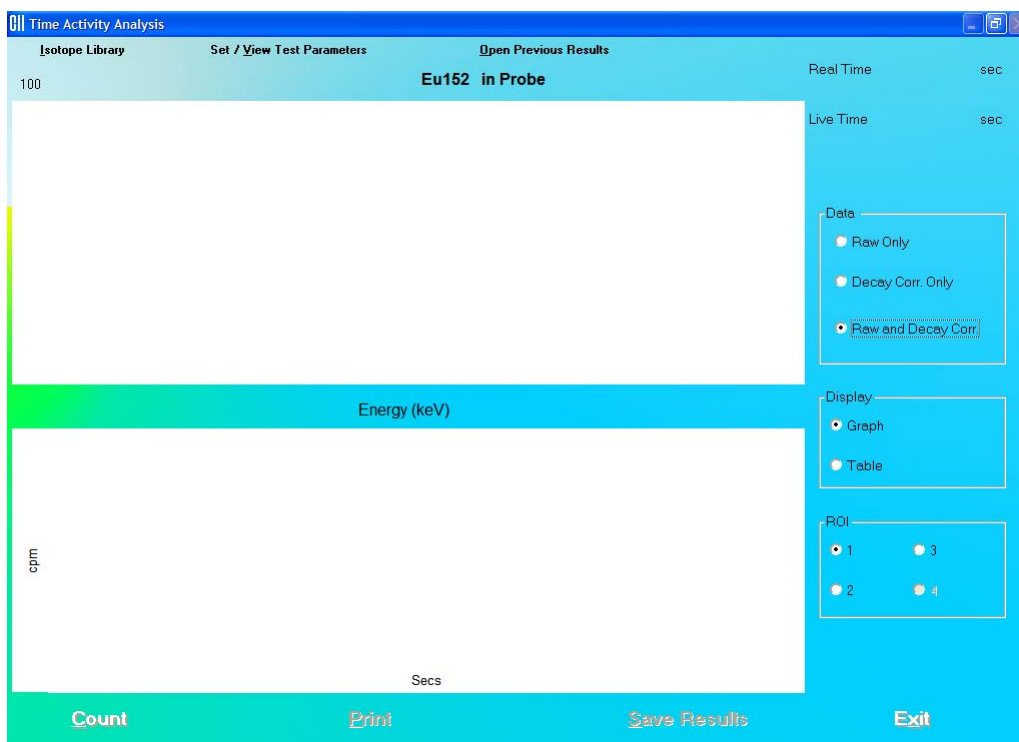
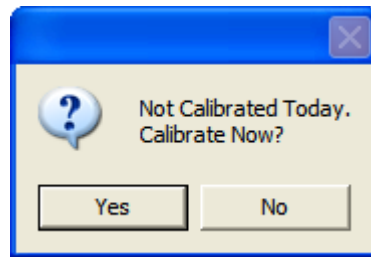
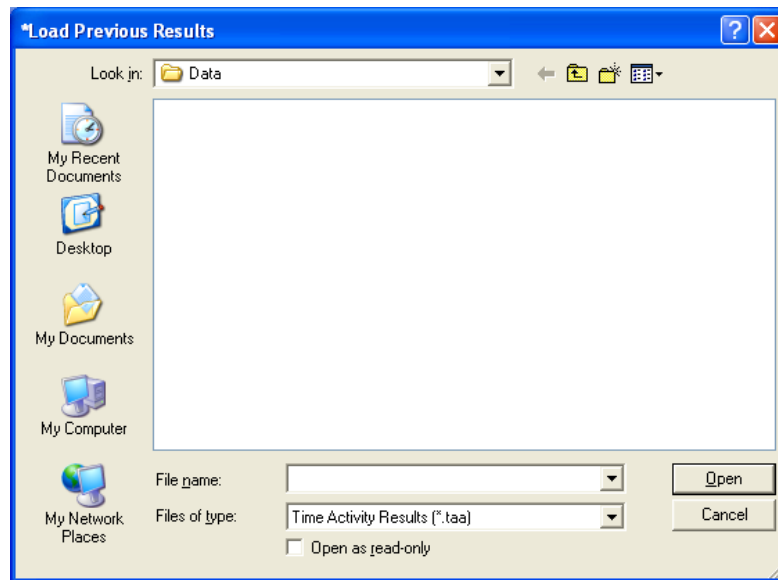

Figure 9-1 Time Activity Analysis screen
Figure 9-5
Figure 9-10
To access this module, click the  button or press *Alt+T* on the Absorbed Dose ALERT System Main screen. Figure 9-1 Time Activity Analysis screen will appear. The functions at the bottom of the screen are disabled until the required parameters have been entered. When counting is started, a live spectrum is displayed in the upper half of the screen. The elapsed real and live time is displayed at the upper right of the screen as the counting progresses. Below the displayed time, there are options for viewing and displaying the data.
- vi. Click the **Done** button to save changes or click the **Cancel** button to discard the changes and return to Figure 9-1 Time Activity Analysis screen.
1. Click the  button or press *Alt+C* on Figure 9-1 Time Activity Analysis screen.
Note: *If calibration has not been performed, you will be prompted with the screen as shown in Figure 9-5. After the calibration is complete, the program will return to Figure 9-1 Time Activity Analysis screen.*
1. Click the **Open Previous Results** button on the menu bar or press *Alt+O* on Figure 9-1 Time Activity Analysis screen. The screen appears as shown in Figure 9-10.